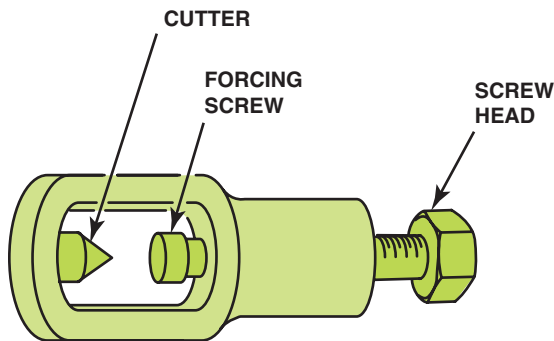

FIGURE 4-38 A nut splitter is used to split a nut that cannot be removed. After the nut has been split, a chisel is then used to remove the nut.
- **Nut splitter.** A **nut splitter** is used to remove the nut by splitting it from the bolt. A nut splitter is used by inserting the cutter against a flat of the nut and tightening the threaded bolt of the splitter. The nut will be split away from the bolt and can then be removed. ● **SEE FIGURE 4-38.**